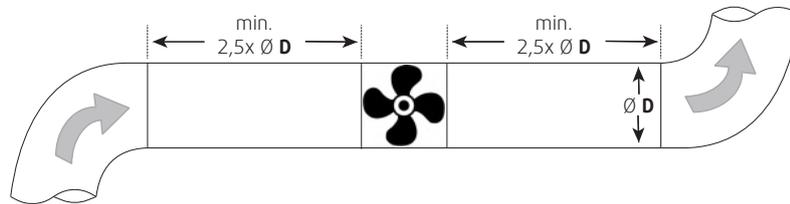

Fig. 1 Straight ducts
- ◆ Ensure a smooth and constant air flow to the device. Ensure a free exhaust. See Fig. 1 *Straight ducts*, page 11.